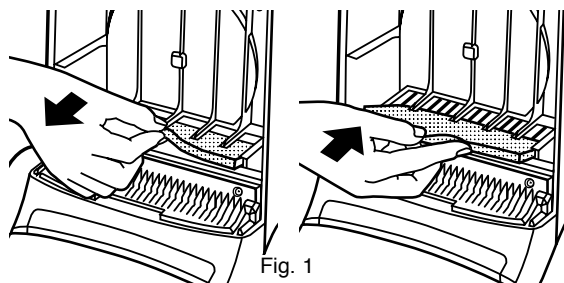
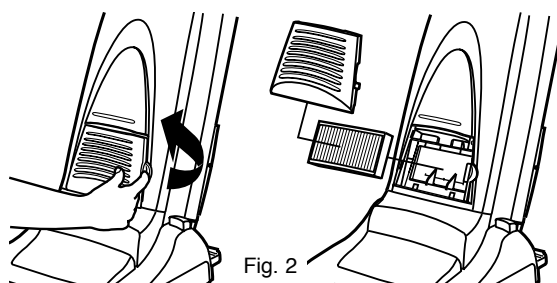

Fig. 1
Fig. 2
In addition to the dust bag, the vacuum cleaner contains two filters; a central filter that protects the motor (Fig. 1) and a HEPA Filter, that removes particles from the exhausted air (Fig. 2).
#### **CENTRAL FILTER (Fig. 1)** Part # F03M1000
#### **HEPA FILTER (Fig. 2)** Part # S02Z6000
Remove the hose from the top suction inlet by pushing the two small clips in turning the hose to the right and pulling it out (Fig. 1). Clear any obstruction from the hose or top suction inlet using a blunt implement, taking care not to damage the hose.
If the obstruction occurs in the suction pipe inlet, it can be removed as shown in Fig. 2.
1. Remove the 5 screws from the base plate and lift it off. (Fig. 1)
2. Release the belt from the motor shaft and lift the beater bar assembly to remove the belt. (Fig. 2)
1. Loosen the 2 screws from the lens cover and remove it. (Fig.1)
2. Remove the old bulb by simply pulling it forward, and replace it with a new one. (Consult your local dealer /Service agent for a suitable bulb) (Fig. 2)